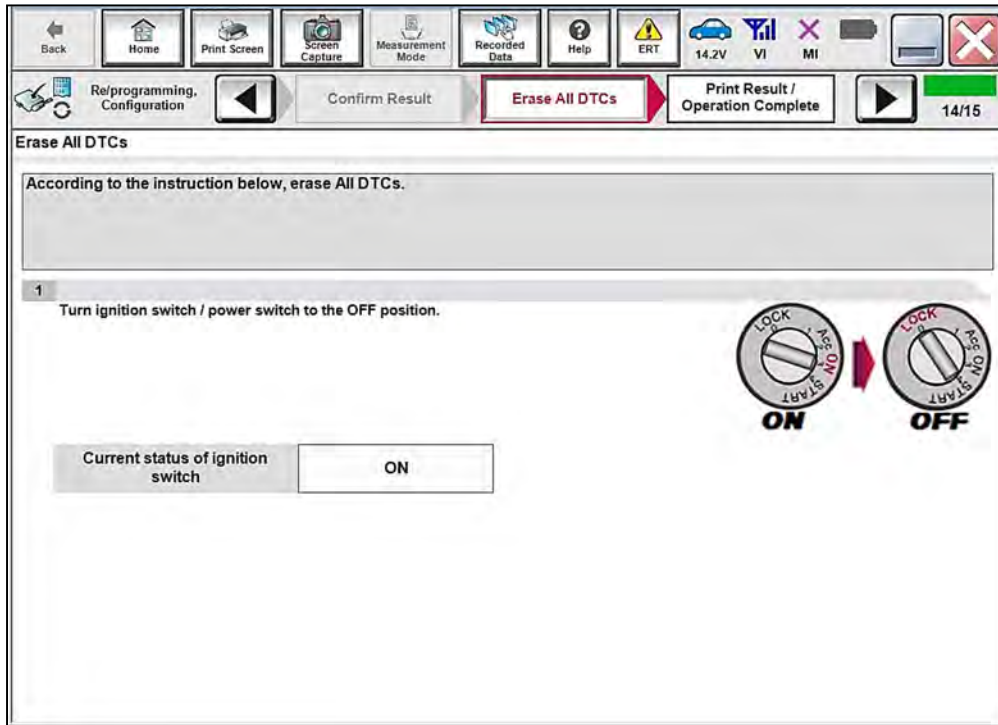
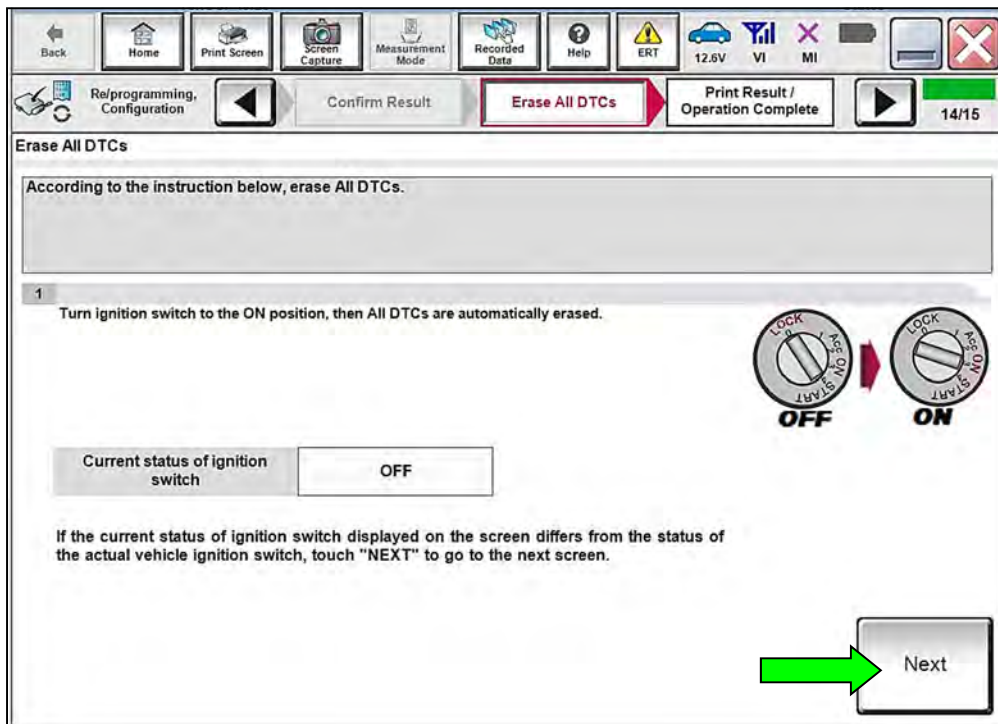

Figure 76
Figure 77
- a. Follow the on-screen instructions as shown in Figure 76 and Figure 77.